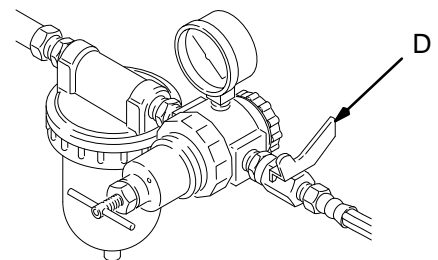

Fig. 4
3. Close the atomizing air shut-off valve (D). See Fig. 4.